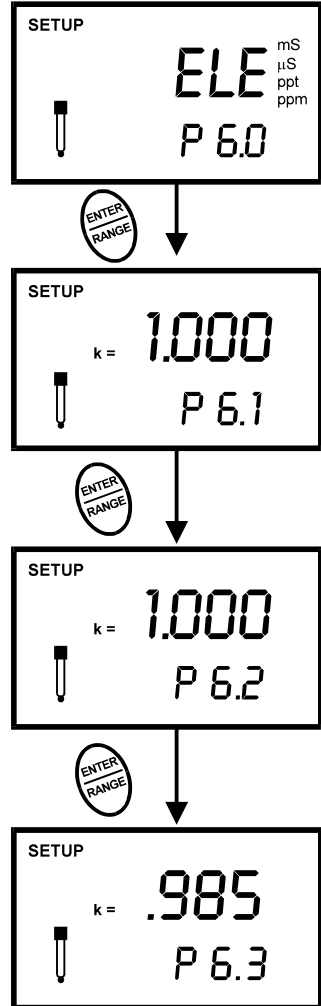

Figure 34 - View probe data for each measurement range
5. When you have scrolled through all probe data, you will automatically return to the subgroup menu. Press the **CAL/MEAS** key to return to measurement mode. See figure 34.